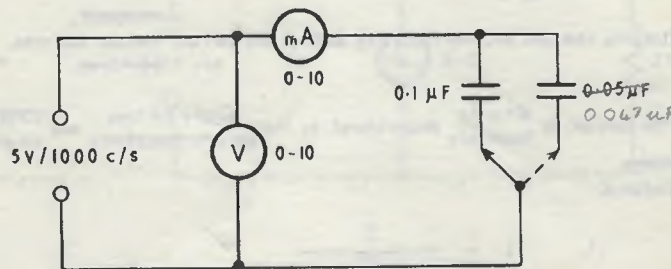

FIG. 1.
**STEP 1.** Connect the circuit as shown in Fig. 1.